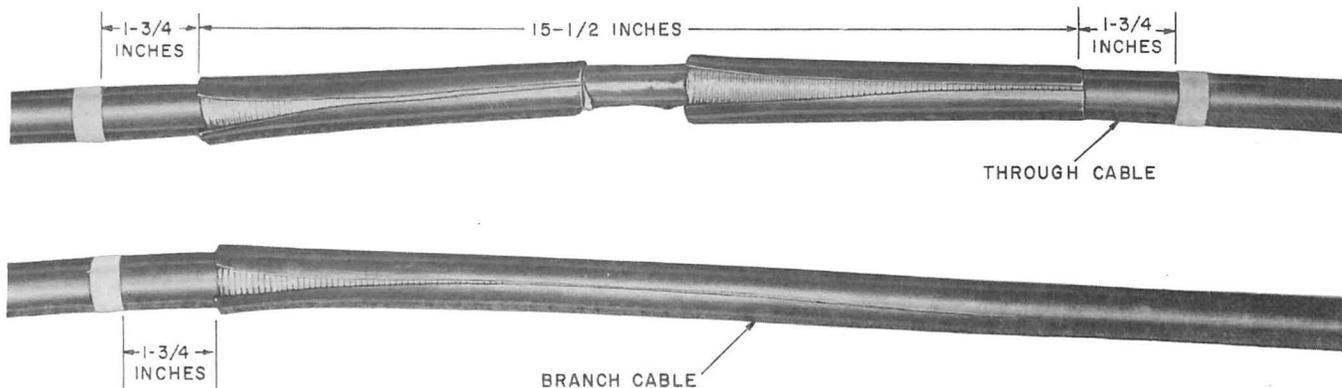

Fig. 16—Polyethylene Sheath—Marked, Cut, and Ready for Removal
5.07 Mark, cut, and remove the polyethylene sheath from the through cable and the branch cable as shown in Fig. 16.